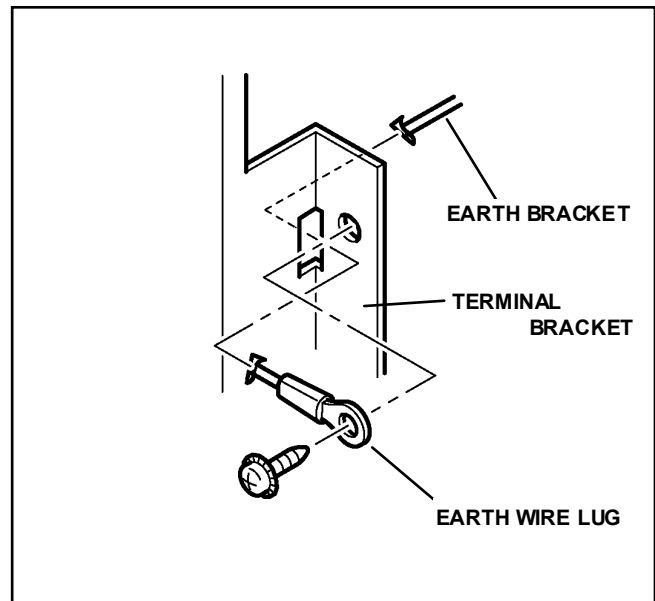

Fig.4
- Before turning on power, make sure that the earth wire properly connected to the terminal bracket, which is attached the main power switch and AC inlet. (Fig.4)